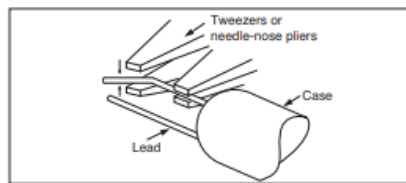

Figure 4
(2) Unbend the lead by pressing on the bent part from both the upper and lower sides while holding the bottom of lead tightly (see Figure 4).